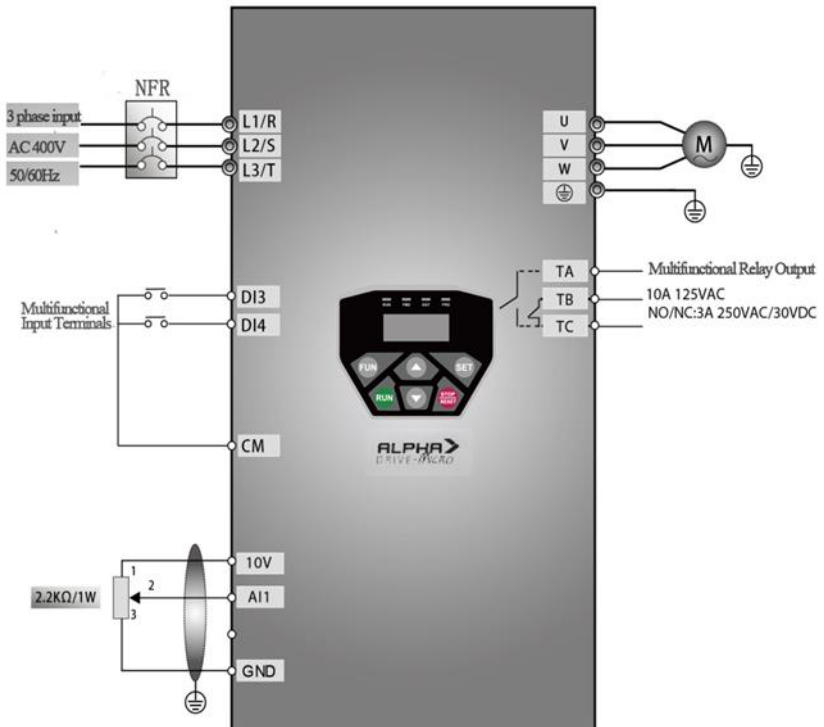

Figure 5-3 Wiring Diagram
1) Connect the wires in accordance with Figure 5-3. After having checked the wiring successfully, switch on power to the inverter. Note: 2K~5K potentiometer may be adopted for setting external analog signals. For the cases with higher requirements for precision, please adopt precise multiturn potentiometer, and adopt shielded wire for the wire connection, with inverter end of the shielding layer grounded reliably.